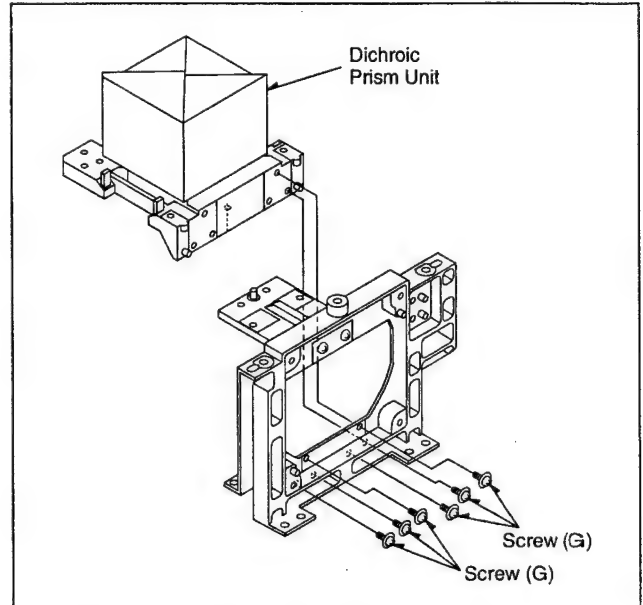

Fig. O8
1. Remove 6 screws (G) to remove the Dichroic Prism Unit as shown in Fig. O8.